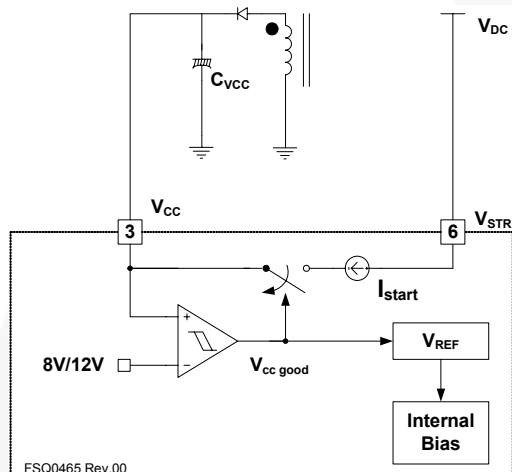

Figure 22. Startup Circuit
1. Startup: At startup, an internal high-voltage current source supplies the internal bias and charges the external capacitor (C_a) connected to the VCC pin, as illustrated in Figure 22. When V_{CC} reaches 12V, the FPS™ begins switching and the internal high-voltage current source is disabled. The FPS continues its normal switching operation and the power is supplied from the auxiliary transformer winding unless V_{CC} goes below the stop voltage of 8V.